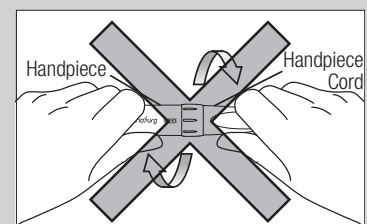

Fig. 23
- CAUTION**  • The Handpiece can not be removed from the Handpiece Cord. Removing or twisting the Handpiece could cause damage to the internal parts and failure may occur. (Fig. 23)